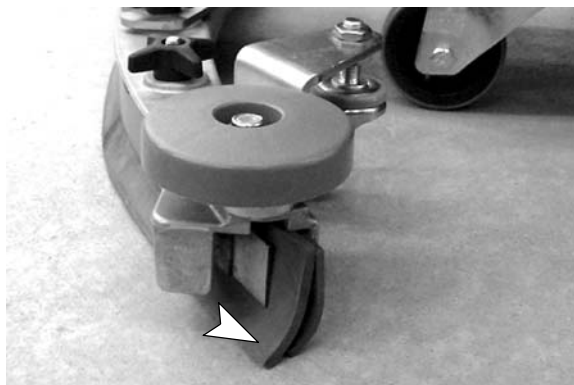

FIG. 64
3. During machine operation, with the casters properly adjusted, the squeegee blades should deflect as shown (Figure 64).